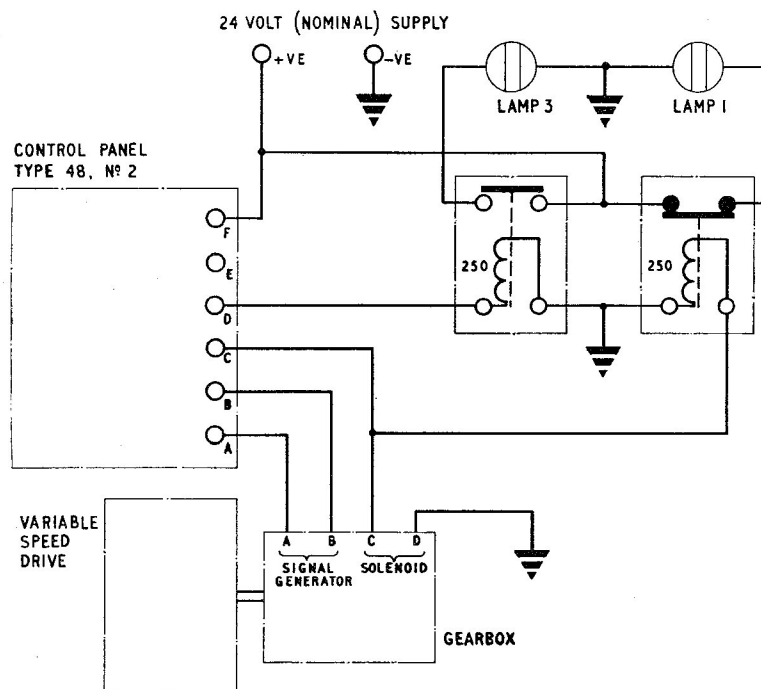

Fig. 5. Test circuit diagram
9. Connect the control panel to the test circuit as shown in fig. 5. The tests should be performed using a Plessey two-speed gearbox (Ref. No. 5UA/7184) driven by a suitable variable speed test set. The relays incorporated in the test circuit for switching the indicating lamp should be designed for operation from a 24V d.c. supply and should have an operating coil resistance of approx. 250 ohms. Before commencing tests remove the side cover plate to gain access to the adjusting screws for inductors L1 and L3.